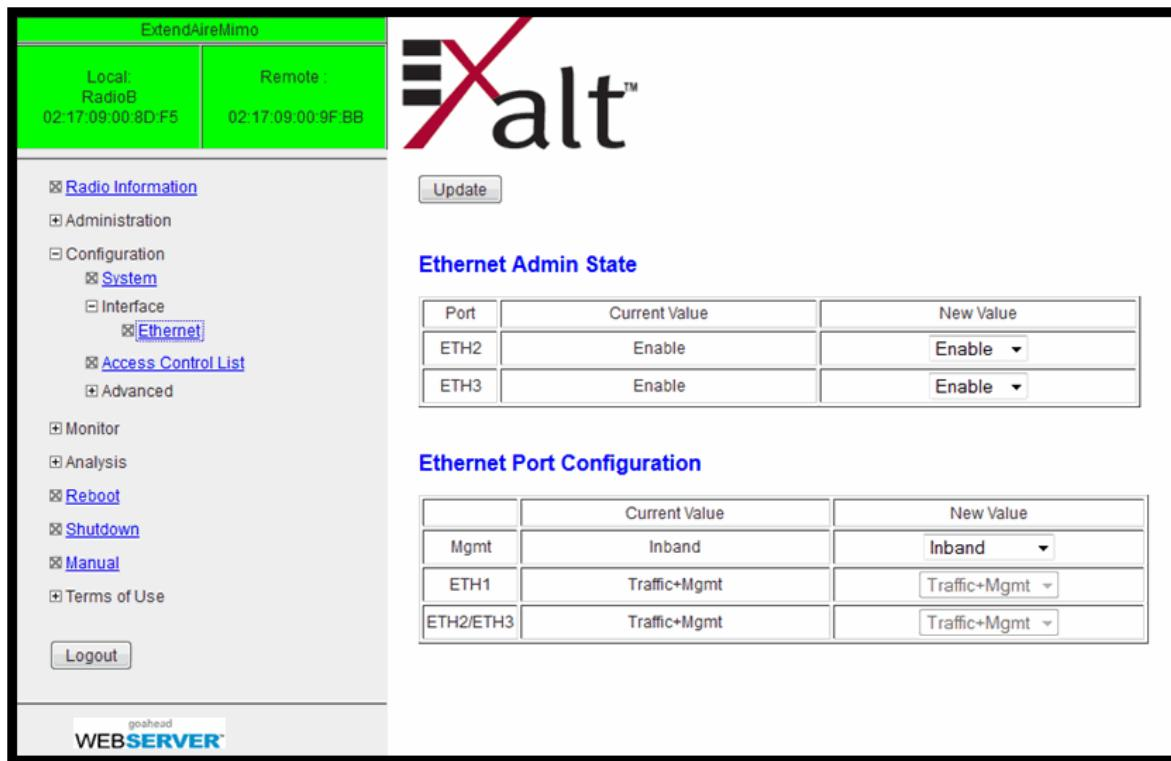

Figure 19 ExtendAir In-band Management Configuration
- In-Band Management (Figure 19) – All ports can pass traffic over the link and also have access to management of the radio. Management traffic is carried over the link. In Figure 19, all interfaces are set to their default values of Traffic+Mgmt.